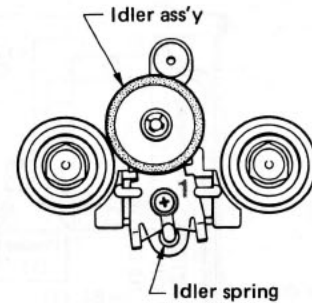

Fig. 6
- Remove screw ① and idler spring in fig. 6, and replace the idler ass'y.